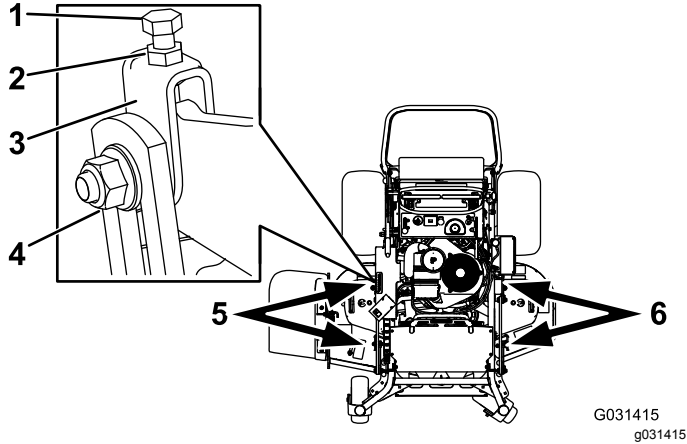

Figure 79
1. Loosen the side nut and jam nut in the yokes you want to adjust (Figure 79).
2. Rotate the top bolt of the yokes to adjust the height of the mower deck (Figure 79).